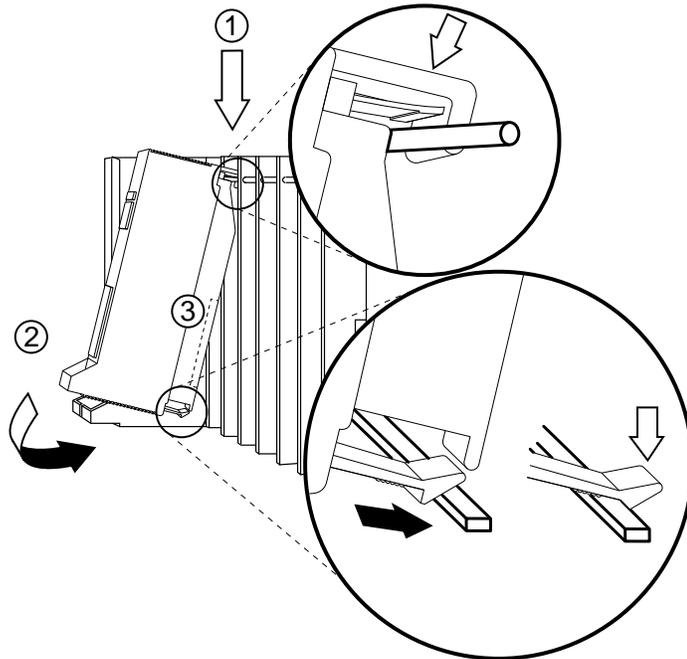

Figure 9-4. Replacing a Module in the Carrier
- 4** Reinstall the power supply module by hooking it onto the rod at the top of the carrier and then swinging it down into place. See Figure 9-4.